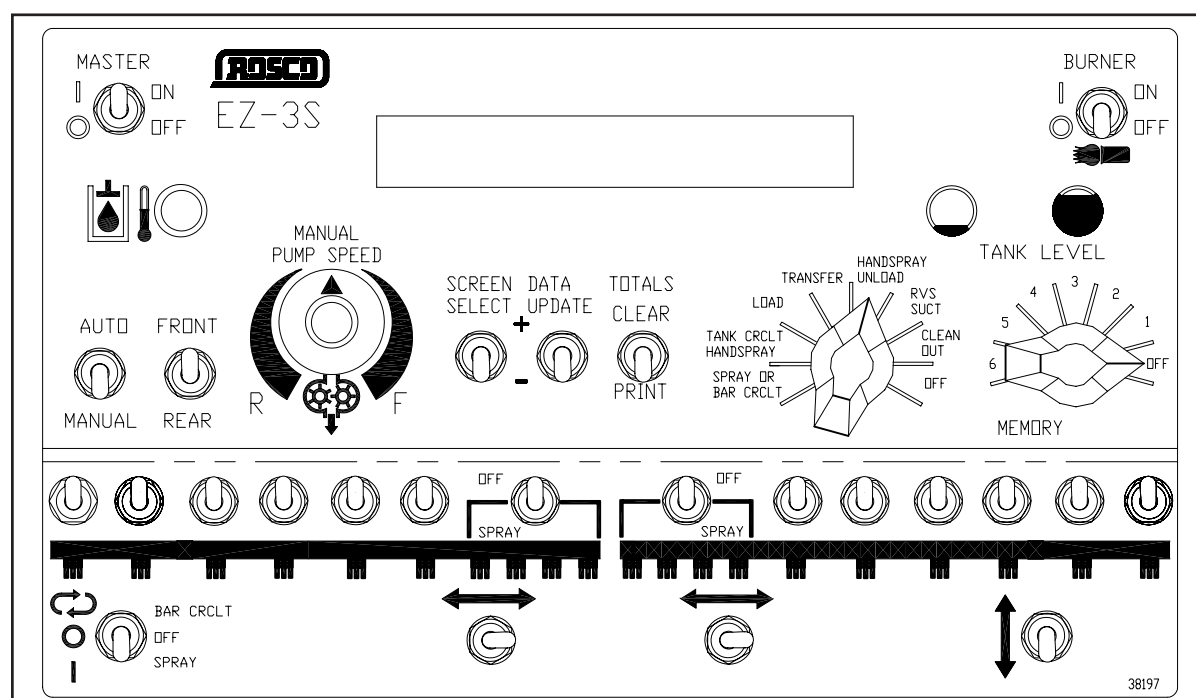

FIGURE 3-1. EZ-3S CONTROLLER
2. Turn the EZ-3S Controller Master switch ON to activate the system. See Figure 3-1 on the following page.
6. Unhook spraybar chains. Press the Spraybar Lift switch (Figure 3-1, next page) UP to raise the spraybar to its highest position.
7. Press the Spraybar Lift switch (Figure 3-1, next page) DOWN and verify that the spraybar moves to its down position.
2. Turn the EZ-3S Controller Master switch ON to activate the system. Set the Auto/Manual switch to MANUAL. (Figure 3-1)